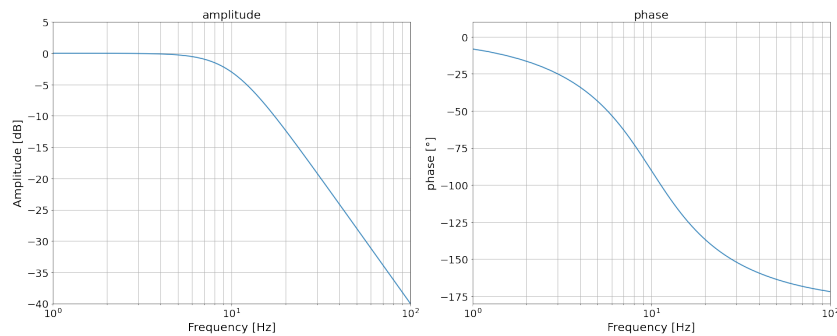

Figure 47: Bodeplot Butterworth lowpass.
E.g.: Cut-off frequency is 10Hz. The bodeplot is shown in the figure 47 below.